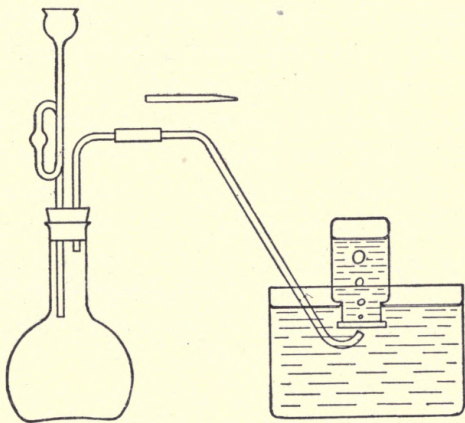

FIG. 2.
8. **Properties.** Arrange a hydrogen generator as shown in Fig. 2, and at the same time prepare the tubes necessary in Exps. 11 and 12. (The apparatus must be submitted to the approval of the instructor before going on with the experiment.) Place 25 gms. of zinc (Zn) in the flask; add enough water to barely cover the metal. Now add concentrated hydrochloric acid (HCl) through the thistle tube, a little at a time, until a brisk effervescence takes place. (CAUTION! *Never bring a flame near a hydrogen generator.*)
Prepare an apparatus as shown in Fig. 2, page 5.